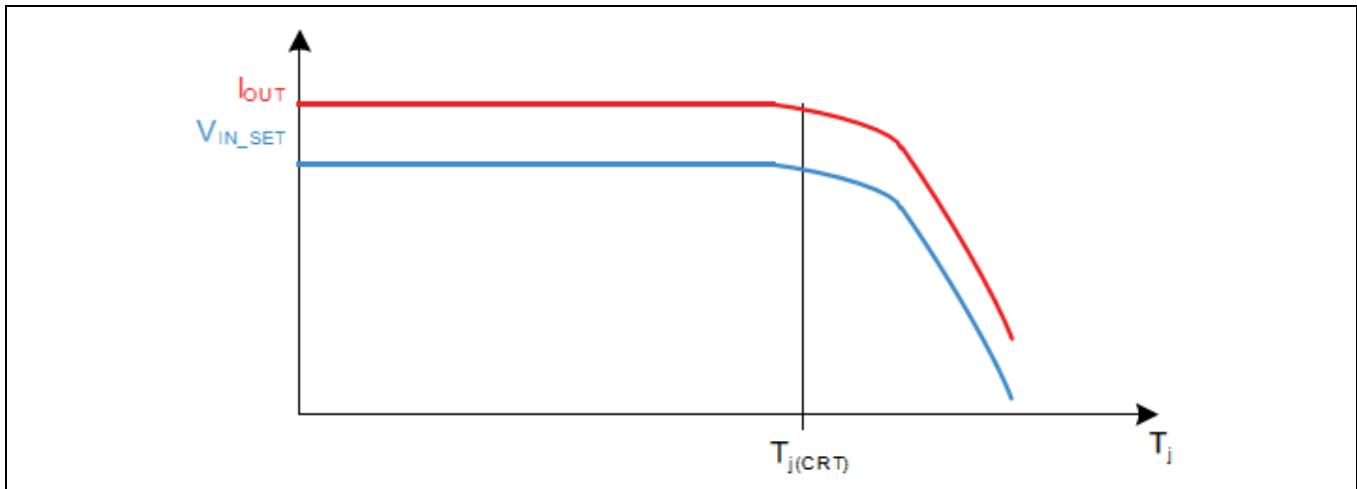

Figure 30 Output current reduction at high junction temperature
- Each output has a temperature dependent current reduction, which reduces the output current as the junction temperature exceeds the current reduction temperature threshold,  $T_{j(CRT)}$ . The output current is reduced by decreasing the internal IN\_SET voltage reference,  $V_{IN\_SET(ref)}$ . See figure 30. This feature protects the device (and the LEDs if they are close to the device) from overtemperature. The current reduction protection eliminates possible flickering of the LEDs which could be seen with an immediate output shutdown approach. This current reduction is active only when the junction temperature is above  $T_{j(CRT)}$  (140°C typ.). If the junction temperature decreases, then the output current will increase.